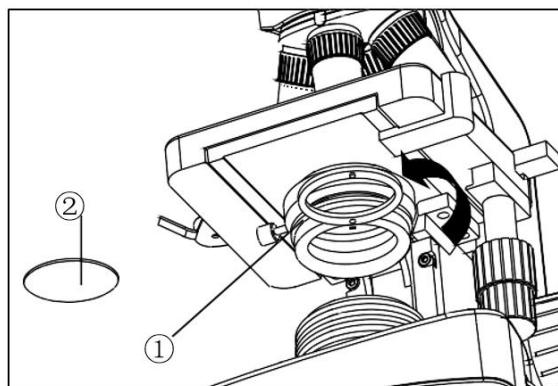

Fig. 7
#### 2.2.4 Install the colour filter (Fig.7)
1. Rotating the condenser holder ① out as the Fig.7 shows.
2. Put the filter ② into the condenser holder, then switch back the holder.
## 2.2.6 Replacing the fuse (Fig.7, 9, 10)